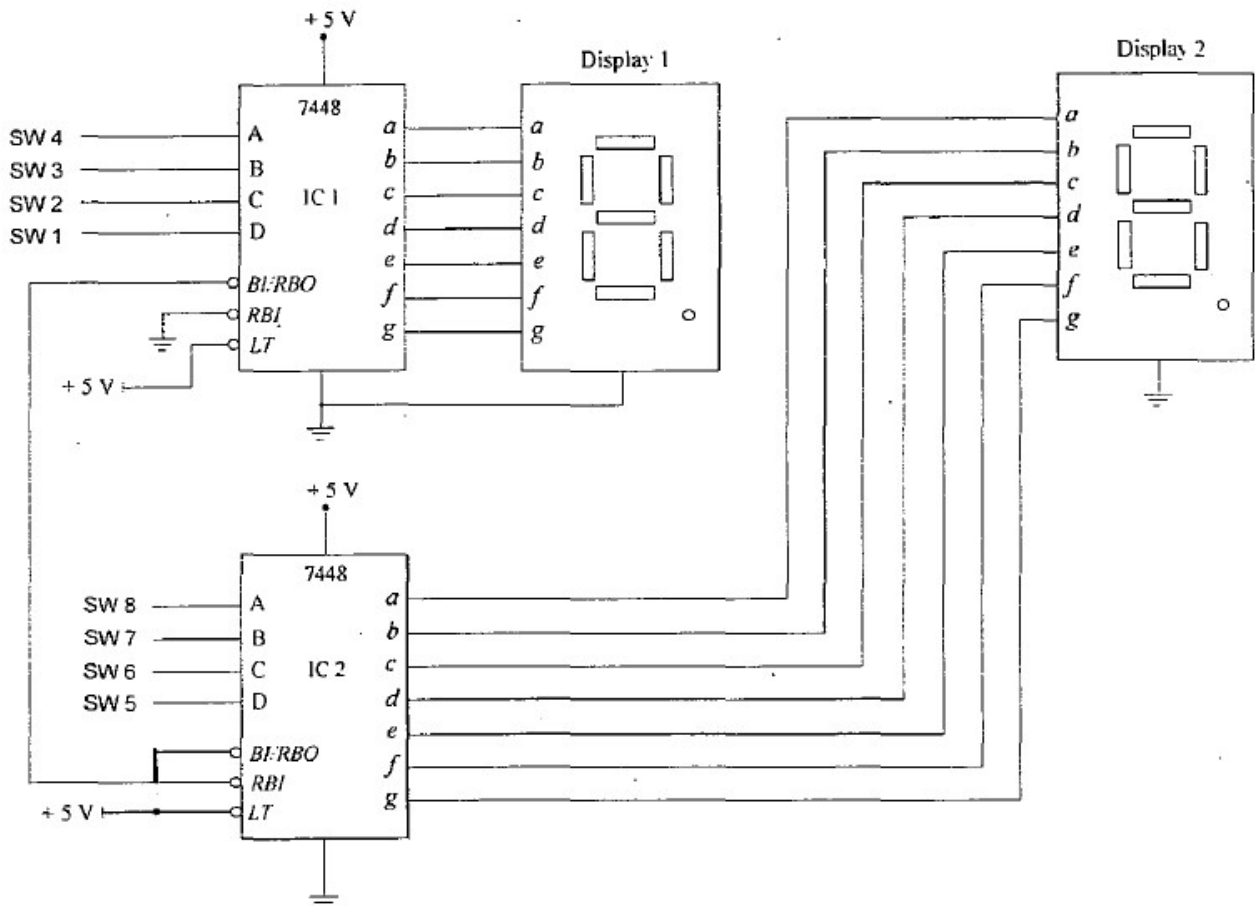

Figure 3.3
1. Built the circuit shown in Figure 3.3. Connect input SW 1, SW 2, SW 3, SW 4, SW 5, SW 6, SW 7 and SW 8 to data switch, and then connect the outputs of each IC to 7-segment displays.